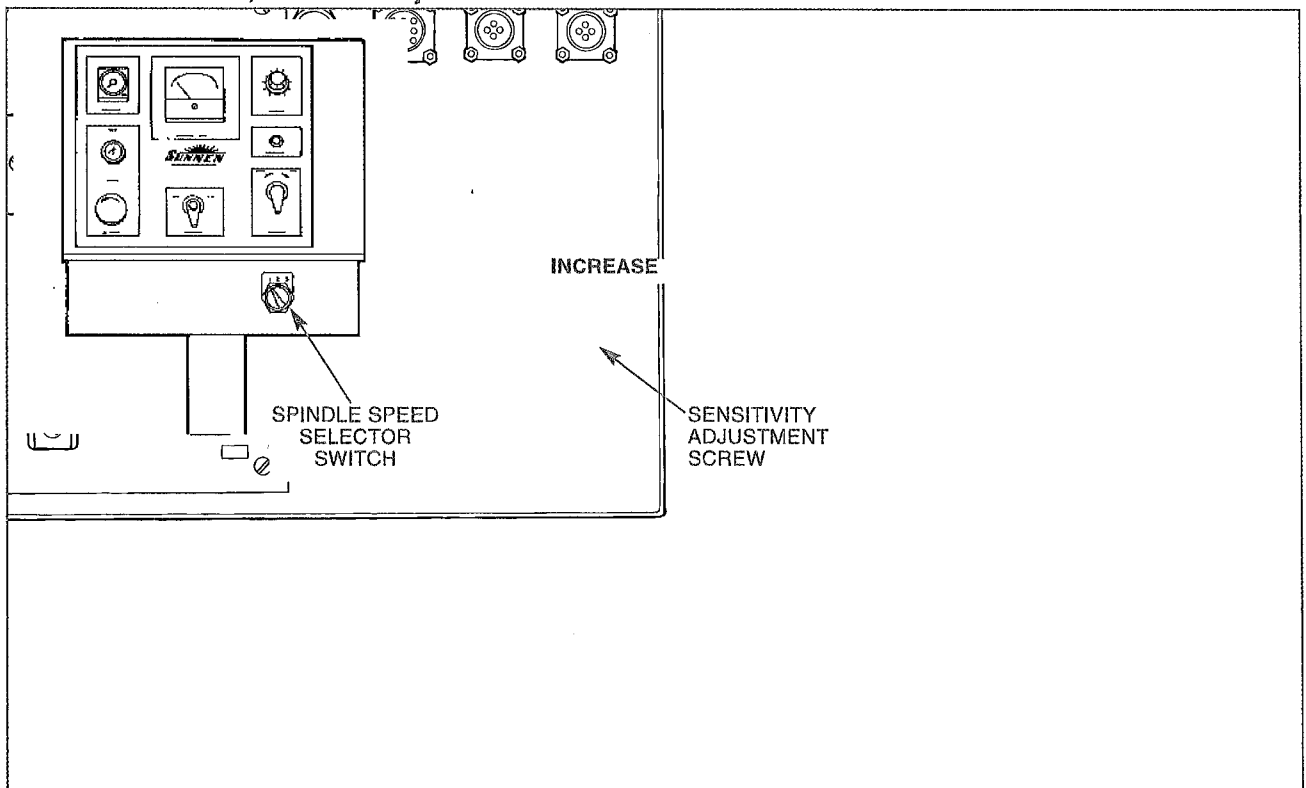

FIGURE 2-4, Feed Control Console (Internal View)
**NOTE:** When setting the Zero Adjustment, the Hydraulic Sensitivity Adjustment SHOULD be adjusted to approximately its mid-range setting (refer to step 8 and Figure 2-4).